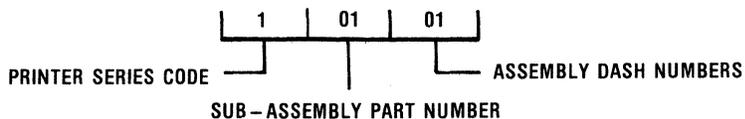

Figure 3-12 Printed Circuit Board Markings
3.6.2 PRINTED CIRCUIT BOARD MARKINGS—The Formatter/Controller pcb, located under the print mechanism, is marked with its part number, dash configuration, and revision level. Also located on the pcb are two labels—one for serial number and the other for assembly configuration code. Figure 3-12 illustrates the pcb and the identification markings.